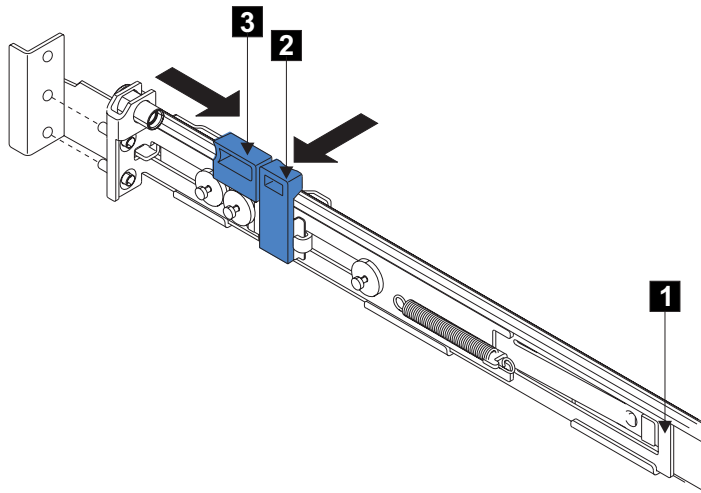

Figure 105. Opening the back latch-lock carrier assembly
5. Push the back rail bracket **1** (Figure 105 on page 278) toward the front of the rail until it stops. The rail is now at its shortest adjustment.